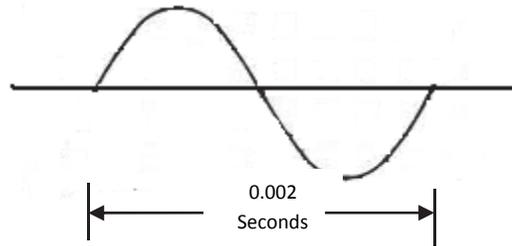

Figure 4
4. Sine wave in Figure 4 below has a period of 0.002 second. What is the frequency? \_\_\_\_\_